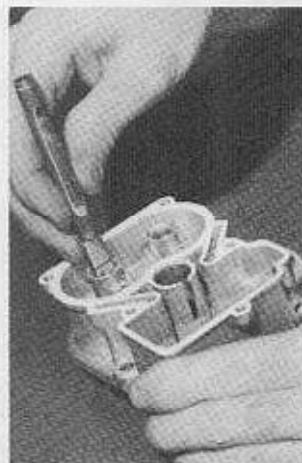

Fig. 29
**24** The idle adjusting needle seat need not be refaced as was done on the Ford carburetor (Fig. 29 on page 77) as the point of the idle needle on the Stromberg type carburetor has an angle of only 20°. This angle is 40° in the case of the Ford carburetor.
- (2) 40-9563 Gaskets—plug
**46** Gauge distance from outlet end of main jet tubes to side of venturi, using "Go"—"No-Go" gauge 9534-B, as shown in Fig. 29. Discard tubes or float bowl or both if necessary to obtain limits within "Go"—"No-Go" surfaces of gauge.
- (3) 31088-S7 Screws